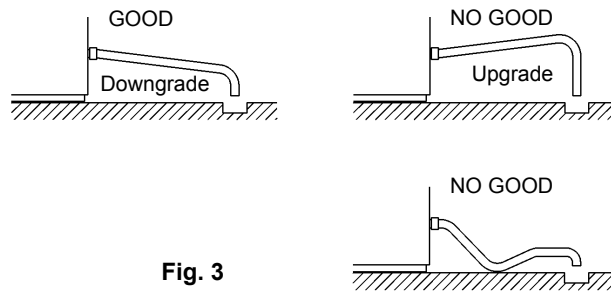

Fig. 3
- * To prevent a backflow into the Storage Bin, the outlet hose must be laid as shown in Fig. 3.
3) Attach grey flexible outlet hose (accessory) to the R3/4 fitting on the rear of the icemaker as indicated, confirming fitment of rubber washer before finally hand tightening the joint. This pipe can be cut to length as necessary to suit position of main drain (Fig. 3).